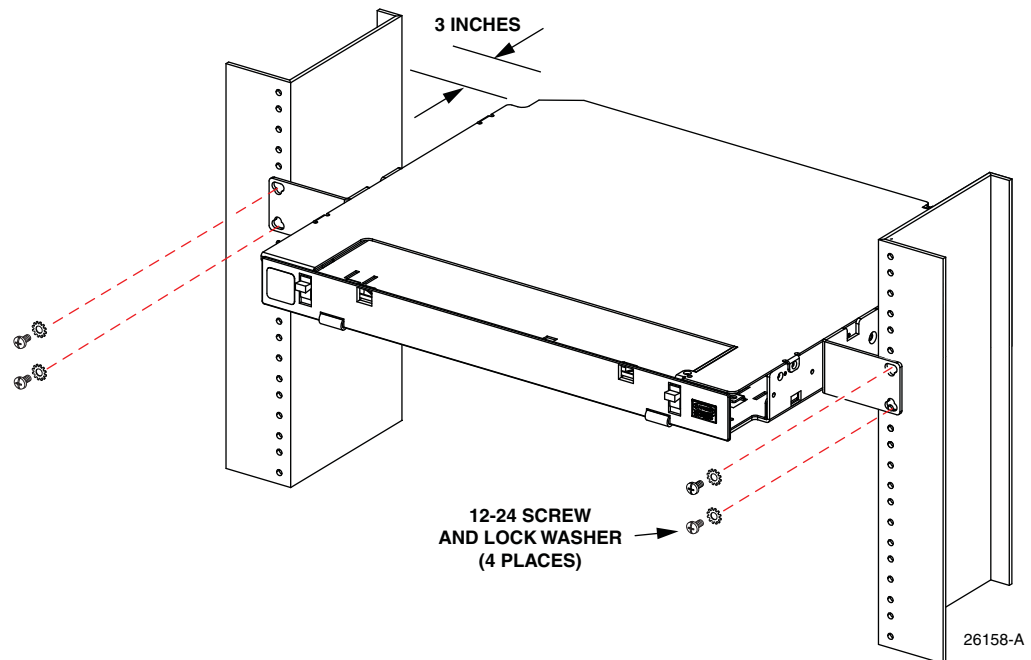

Figure 28. Mounting Panel Shell in Rack
5. Secure the panel shell to the rack or cabinet using the four #12-24 screws and star washers provided, as shown in Figure 28.